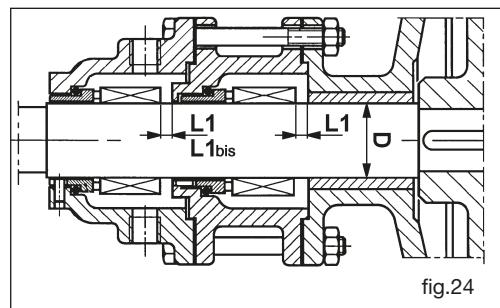

fig.24
- Slip on the rear cover (09).
- NB: The table shows the diameter D of the shaft and the distance L1 between the seal (66.1) and the rear cover (09) when the latter is not fixed in place but only resting on the rear of the rotor (fig. 24).**
- Mount the stationary seat carefully in the seal box (77).
- Mount the seal box on the rear cover and repeat the preceding operations with the second seal (66.2) and seal box (81).